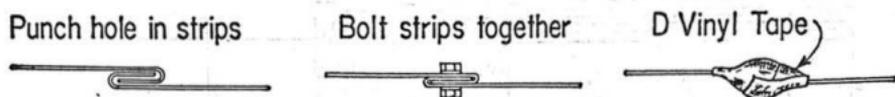

Fig. 12
2.14 Lay the metal strips across the splice opening, bolt them together at the center of the splice and tape as illustrated in Fig. 12. Any commercially available small bolt, washer and nut assembly is satisfactory.